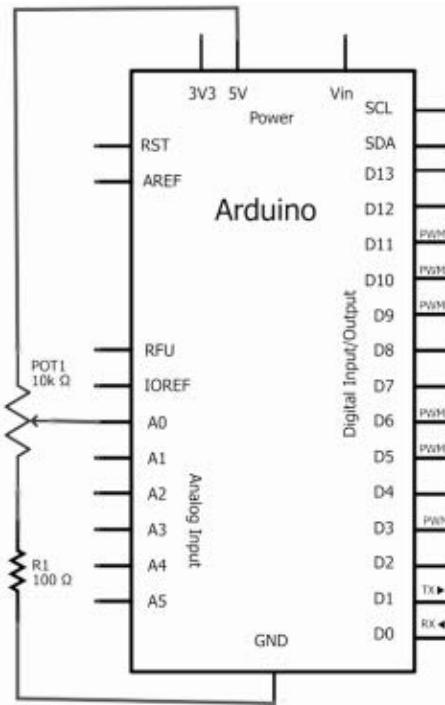

FIGURE 13:
- ❑ Adjust the pot to various angles and read the angles with the serial monitor. Note the accuracy or lack of it for these readings. You should get results similar to those in **Figure 13**.